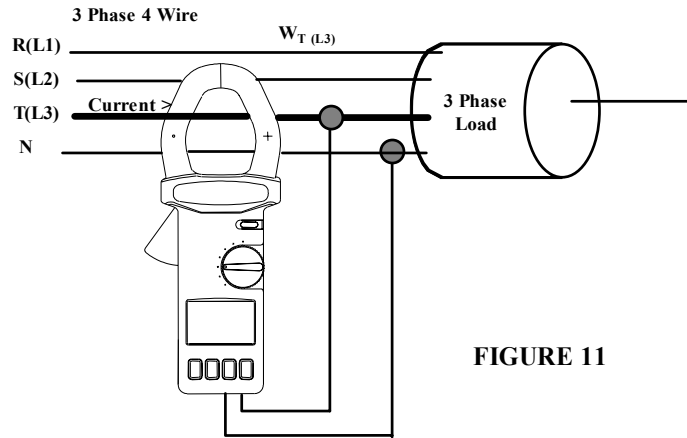

FIGURE 11
3. Thirdly, measure W_T (or W_{L3}). See Fig. 11.